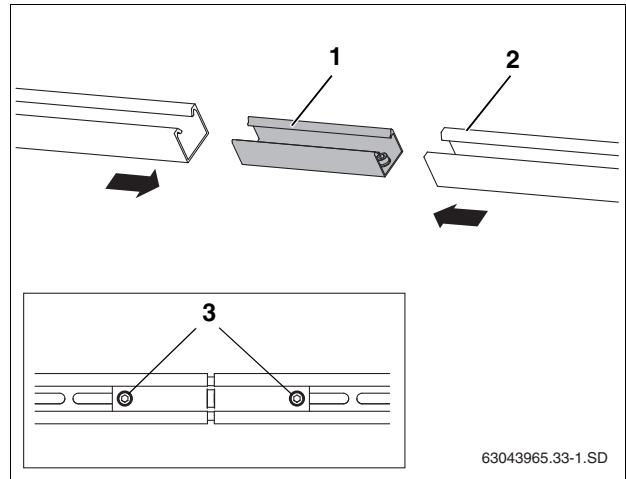

Fig. 31 Connecting profile rails
- ▶ Push connector (Fig. 31, [1]) as far as it will go into both profile rails (Fig. 31, [2]).
- ▶ To lock, tighten both installed M10 threaded studs (Fig. 31, [3]) in the connector using a size 5 Allen wrench.